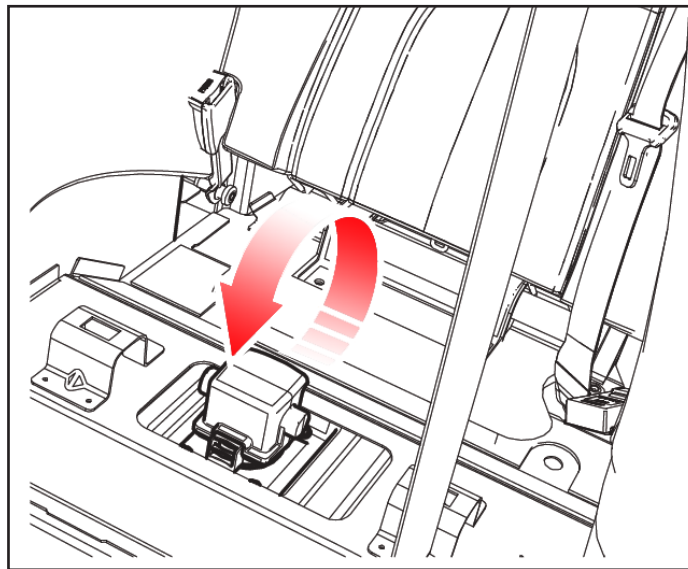

fig.3a
2.1.1 Release the latch pin from the MSD latch (fig.3a,3b,and 3c). Lift cover for access, release clip and remove the MSD from the HV battery